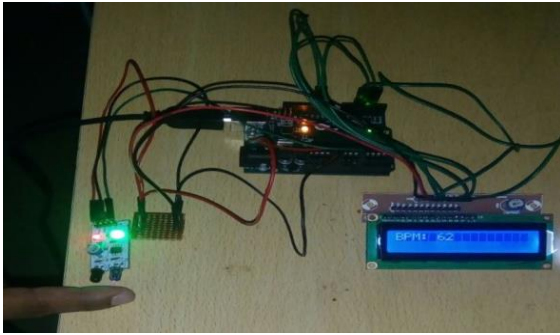

Figure 6: Final output of the proposed module.
4. LCD monitor displays the final count of a heart rate per minute in digitized form as shown in the figure 6 below.